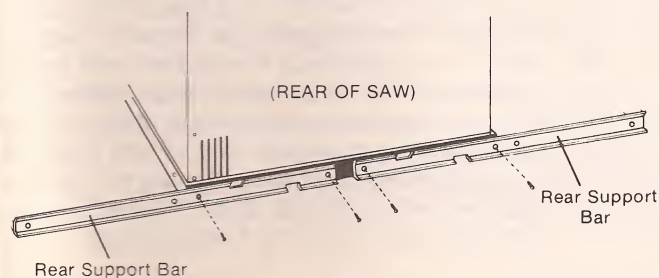

Figure 6
- F. Select the two identical Rear Support Bars (see **figure 1**) and install on the rear edge of the Table Top as shown in **figure 6**. Make sure that the raised edges of the Support Bars are facing out. (Study **figure 6**.)